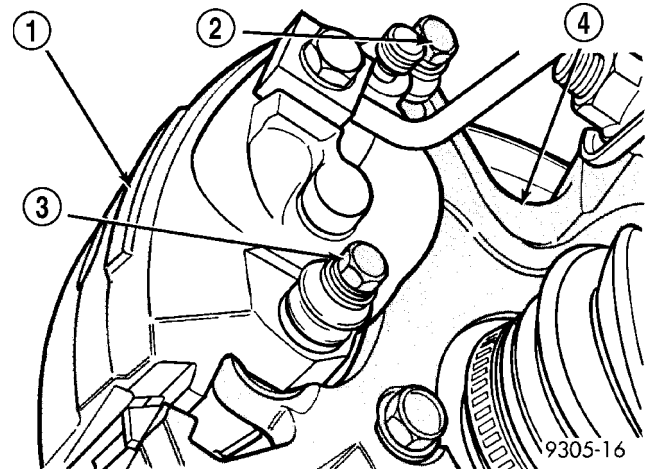

Fig. 24 Caliper Guide Pin Bolts
(5) Remove the two caliper guide pin bolts (Fig. 24).
(1) Using a brake pedal holding tool, depress brake pedal past its first 1 inch of travel and secure in this position. This will isolate the master cylinder reservoir from the brake hydraulic system, not allowing the brake fluid to drain out of the reservoir.
(2) Raise vehicle. (Refer to LUBRICATION & MAINTENANCE/HOISTING - STANDARD PROCEDURE)
(3) Remove front wheel and tire assembly from vehicle.
(4) Remove the banjo bolt connecting the brake flex hose to the caliper. There will be two washers (one on each side of the flex hose fitting) that will come off at the same time.